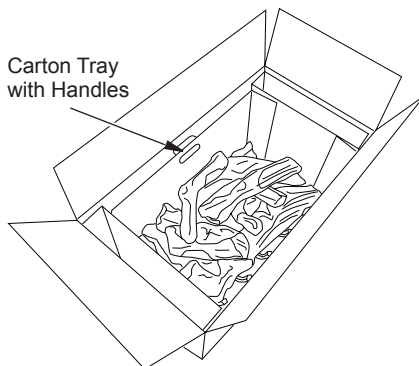

Figure 1 - Log Set in Packing Box
1. Remove contents from side compartments (see Figure 1).